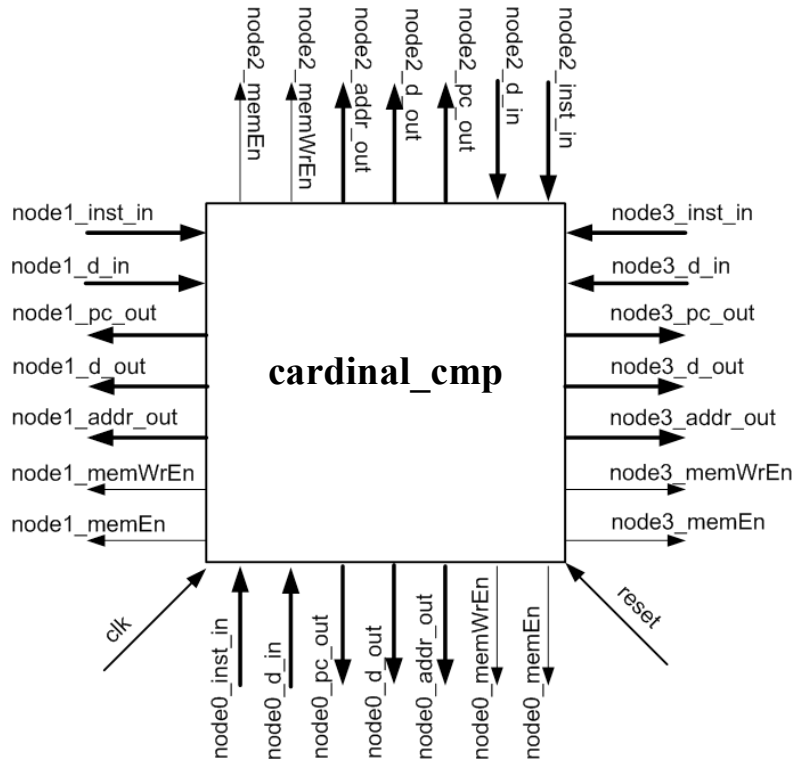

Figure 1: Top Level cardinal\_cmp module.
1. Modify the I/O port of your Cardinal CMP top module according to Figure 1. The new version removes the signals used for testing in Project Part 3.